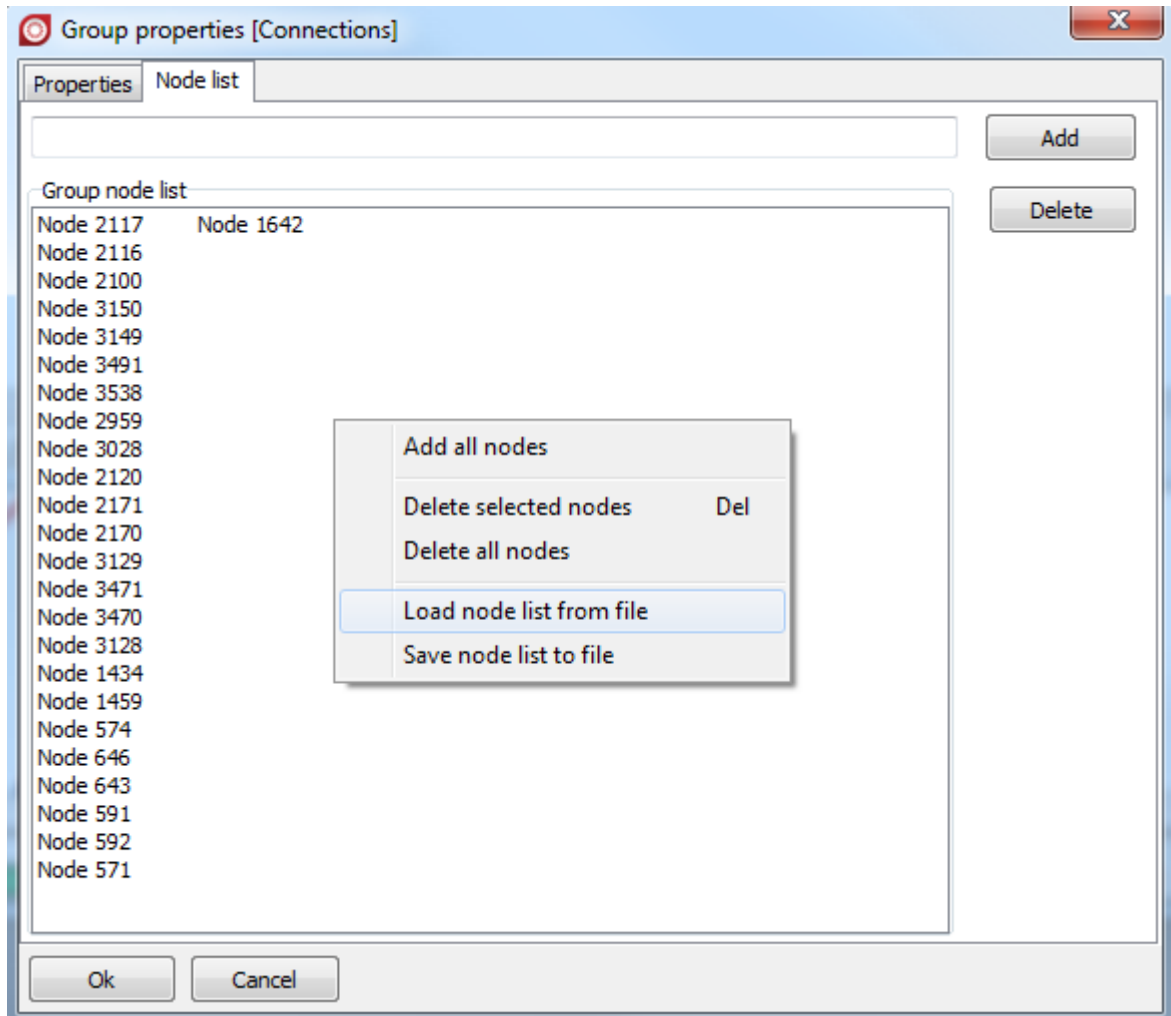

Figure 2.36. Load node list from text file
17. Load a node list from the file *Connections node list.nls* using with the help of popup menu command **Load node list from file**, see Figure 2.36.